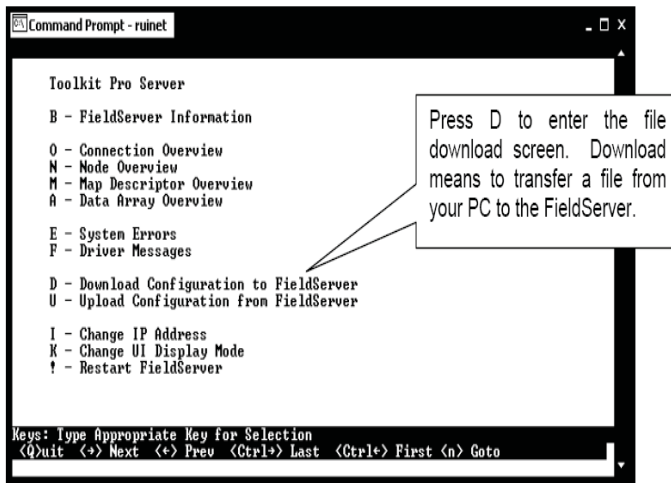

Figure 21: Download new Config.csv file
16.) From the *RUINET Main Menu*, type <D> to Download the new config.csv file to the FieldServer (**Figure 21**).